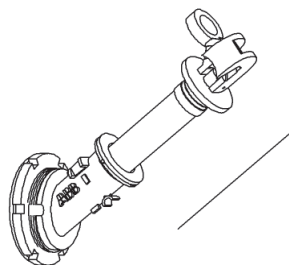

Figure 3
4. Quickly pull the fuseholder out approximately 6 inches to open the circuit. Wait a few seconds for oil to drain back into the tank, then completely withdraw fuse holder. (See Figure 3)